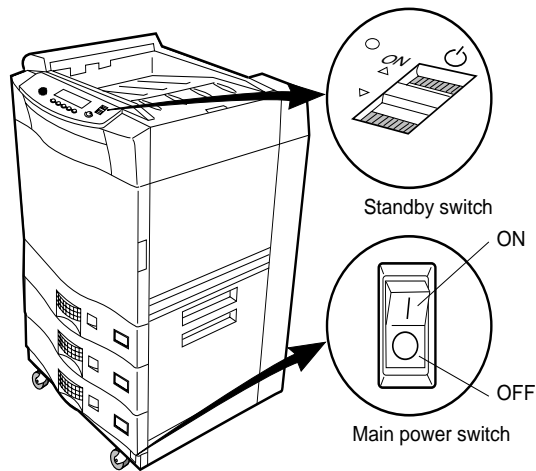

Figure 1-10 Standby switch and Main power switch
1. Locate the main power switch and standby switch as shown in Figure 1-10.